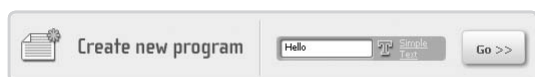

Figure 2-4: Creating a new program
For your first program, use the Sound block to have the NXT say “Hello.” When you start the MINDSTORMS IDE, you’ll see an area that lets you create a new program or open an existing one. In the Create New Program box, enter **Hello** as the program name, and click the **Go** button, as shown in Figure 2-4. (This box is labeled *Start new program* in the original NXT retail kit and the education set.)
3. Fill in the program name in the Create New Program box, and click the **Go** button as shown earlier in Figure 2-4.